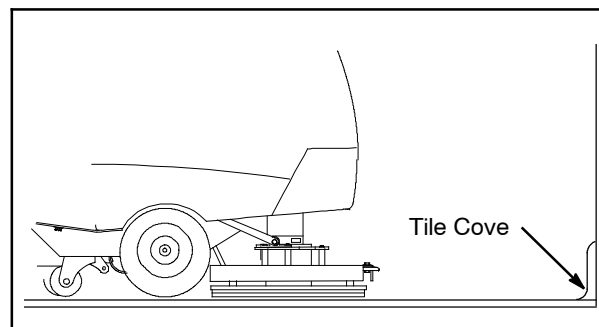

FIG. 70
8. Orbital Scrub Head Model - Use caution when working near the tile cove (Figure 70) and floor mounted fixtures such as pedestal sinks and other breakable items. Keep the metal scrub head edge away to avoid possible damage.